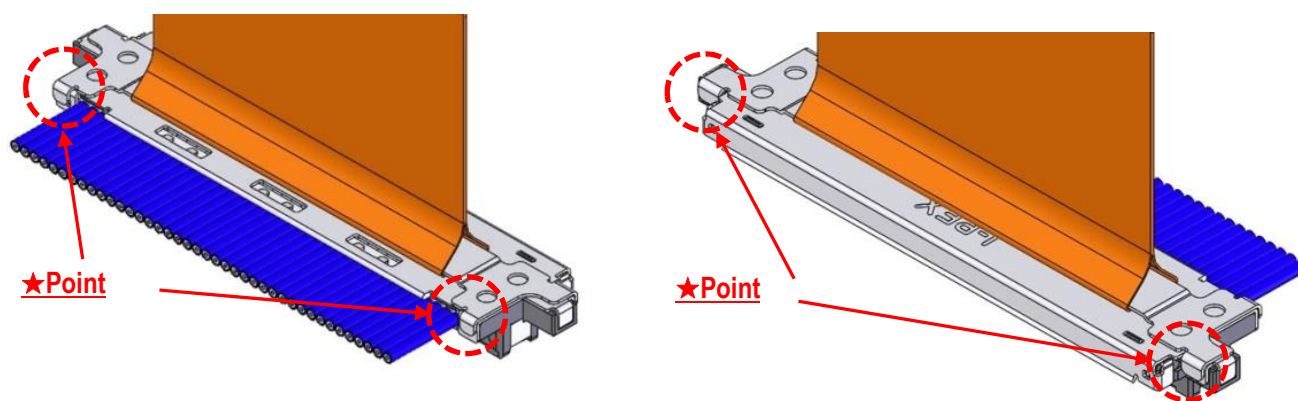

Fig.12 The Assembly Confirmation of Pull Tape Holder
- ② Make sure that pull tape holder is assembled properly.(Fig.12★Point)